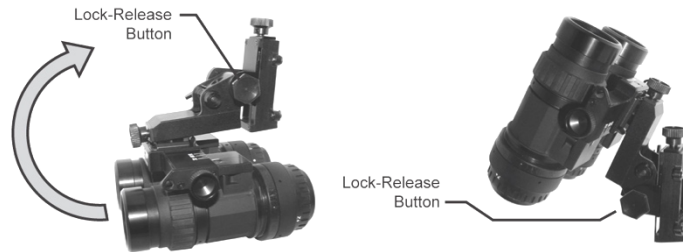

Figure 2-6. Lock-Release Button
3. Press the lock-release button (see Figure 2-6) and rotate the binocular to the up and lock position.